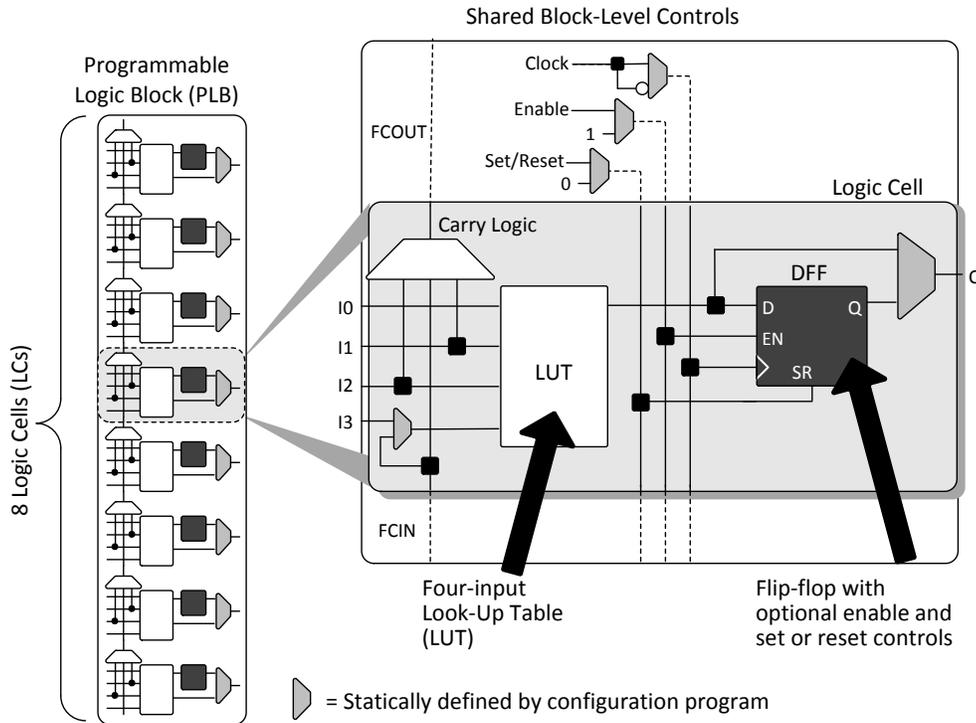

Figure 3.2. PLB Block Diagram
The core of the iCE40 UltraLite device consists of Programmable Logic Blocks (PLB) which can be programmed to perform logic and arithmetic functions. Each PLB consists of eight interconnected Logic Cells (LC) as shown in Figure 3.2 Each LC contains one LUT and one register.
Each Logic Cell includes three primary logic elements shown in Figure 3.2.